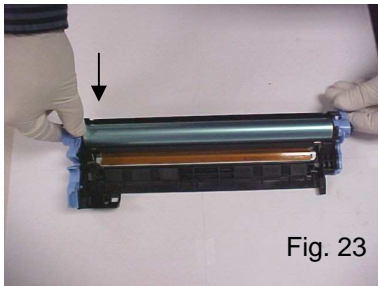
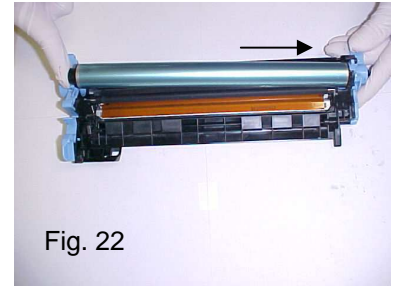

Fig. 23
Fig. 22
8. The replacement OPC Drum has a spring loaded end and a stationary end. Insert the stationary end of the drum into the drum penetration as shown on (Fig. 22). Press in the spring loaded end of the drum and insert it into the contact side drum penetration (Fig. 23). The drum end will snap into place.